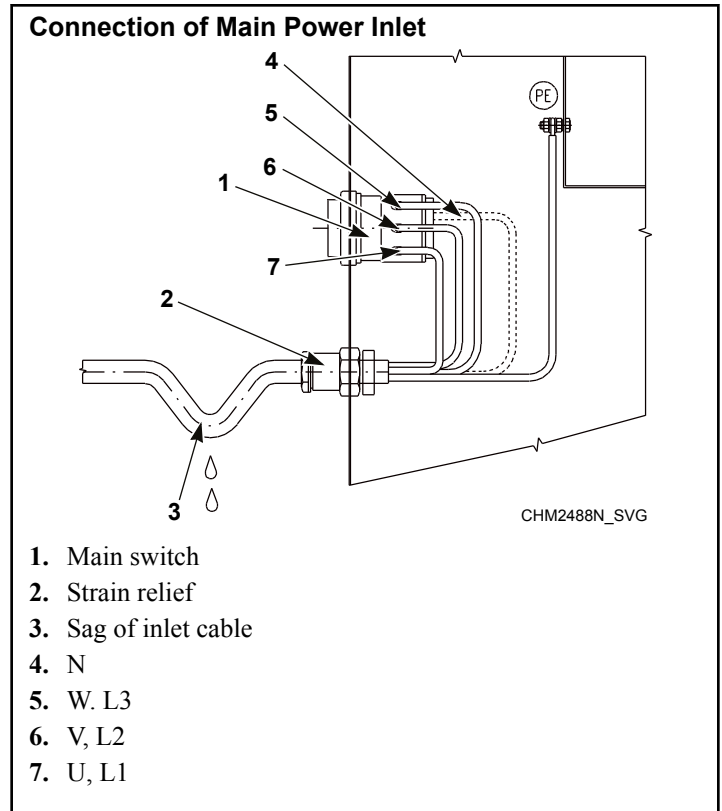

Figure 30
7. Provide a sag in the cable, in front of the cable strain relief. This will avoid condensed water dripping into the machine. Refer to *Figure 30*.